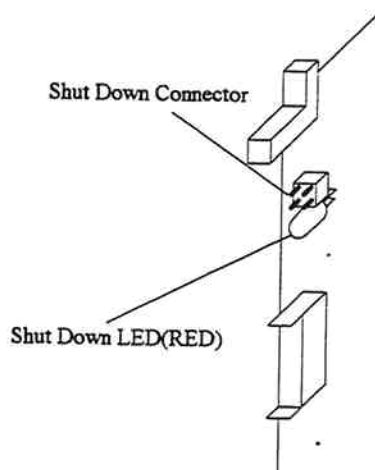

Fig. 3.7.4.3-1 Shut Down LED
- a. Confirm that the Shut Down LED lights.(Fig. 3.7.4.3-1) If the LED does not light, see Connection of Shut Down Jumper(INST03-2600).